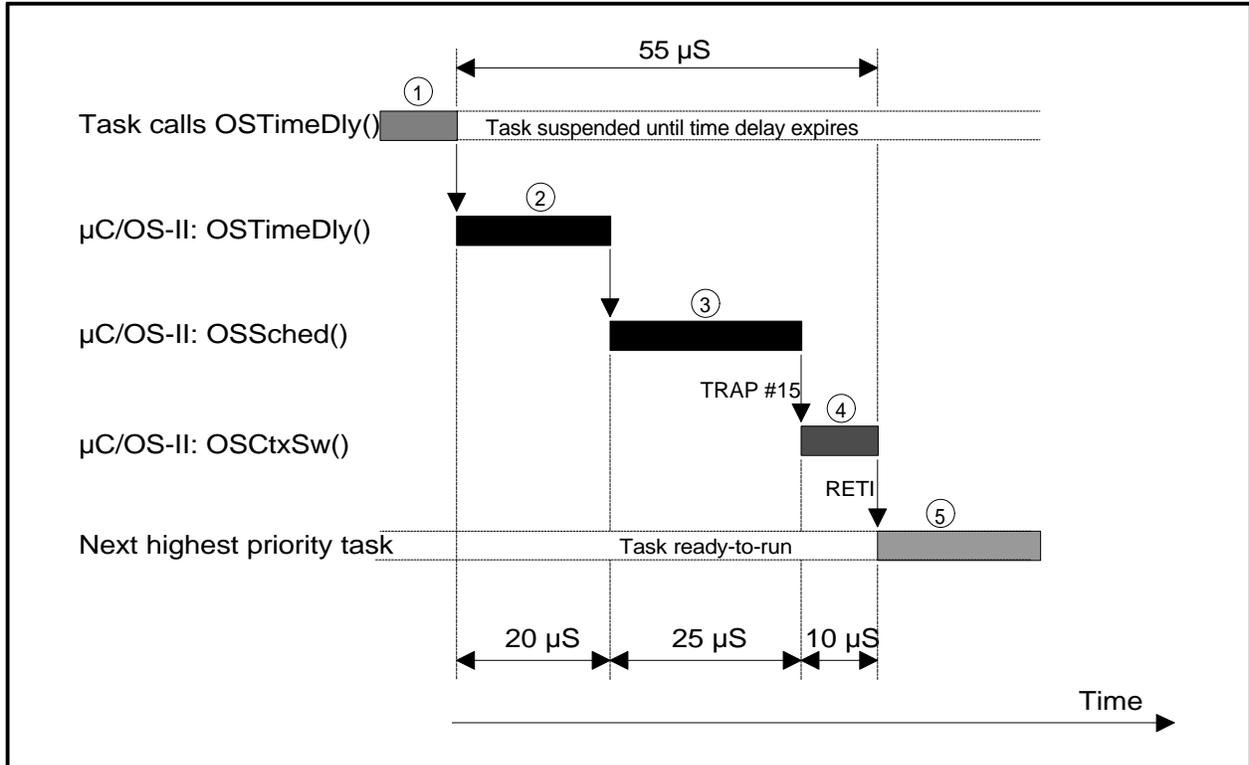
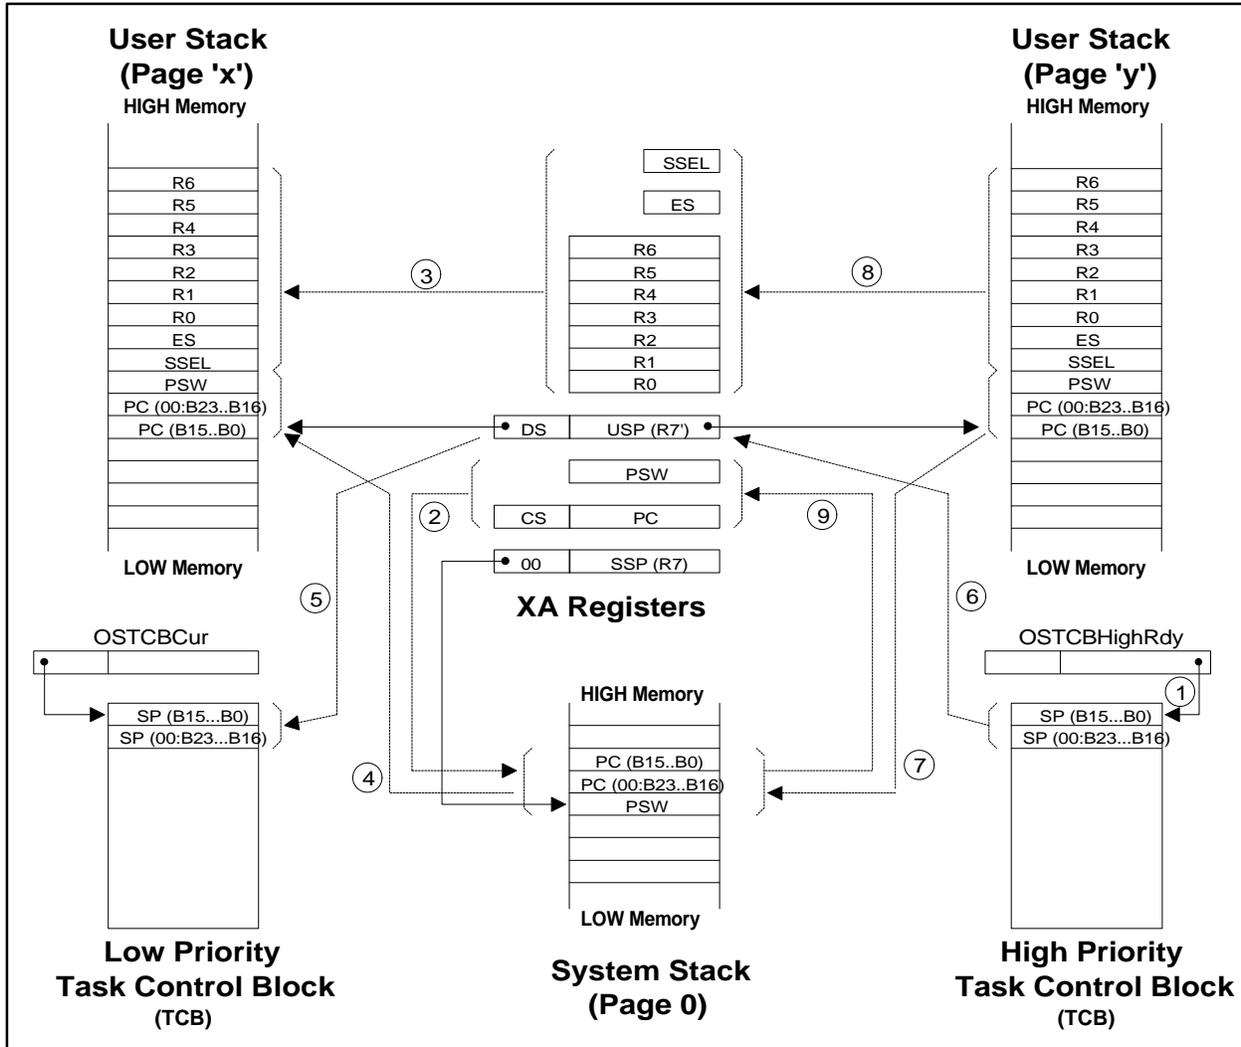

Figure 4
Figure 5
Because µC/OS-II is a preemptive kernel, it always executes the highest priority task that is ready to run. As your tasks execute they will eventually invoke a service provided by µC/OS-II to either wait for time to expire, wait on a semaphore or wait for a message from another task or an ISR. A context switch will result when the outcome of the service is such that the currently running task cannot continue execution. For example, figure 4 shows what happens when a task decides to delay itself for a number of ticks. In ①, the task calls `OSTimeDly()` which is a service provided by µC/OS-II. `OSTimeDly()` places the task in a list of tasks waiting for time to expire ②. Because the task is no longer able to execute, the scheduler (`OSched()`) is invoked to find the next most important task to run ③. A context switch is
The work done by `OSCtxSw()` is illustrated in figure 5. The scheduler loads `OSTCBHighRdy` with the address of the new task's TCB ① before invoking `OSCtxSw()` which is done through the TRAP #15 instruction. `OSTCBCur` already points to the TCB of the task to suspend. The TRAP #15 instruction automatically pushes the return address and the PSW onto the system stack ②. `OSCtxSw()` starts off by saving the remainder of the XA's registers onto the user stack ③ and then, moves the saved PSW and PC from the system stack to the user stack ④. The final step in saving the context of the task to be suspended is to store the top-of-stack into the current task's TCB ⑤. The second half of the context switch operation restores the context of the new task. This is performed in the following four steps. First, the user stack pointer is loaded with the new task's top-of-stack ⑥. Second, the PC and PSW of the task to resume is moved from the user stack to the system stack ⑦. Third, the remainder of the XA's registers are restored from the user stack ⑧. Finally, a return from interrupt instruction (RETI) is executed ⑨ to retrieve the new task's PC and PSW from the system stack which causes the new task to resume execution where it left off. As shown in figure 4, a context switch for the large model takes only about 10 µs at 24 MHz.